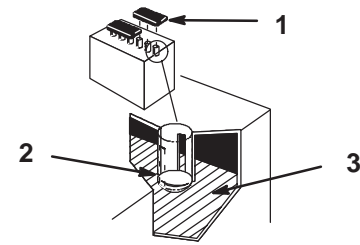

Figure 52
- Open covers to see into the cells. The electrolyte must be up to the lower part of the tube (Fig. 52). Do not allow the electrolyte to get below the plates (Fig. 52).
- Lift off the filler caps (Fig. 52).
- Slowly pour distilled water into each battery cell until the level is up to the lower part of the tube (Fig. 52).